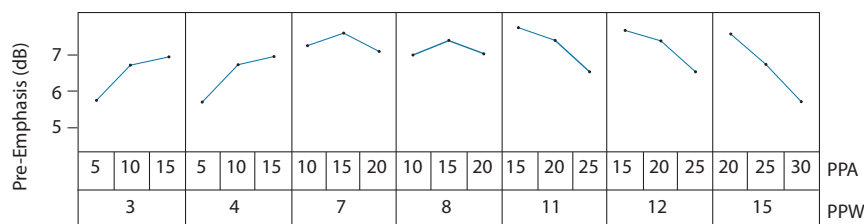
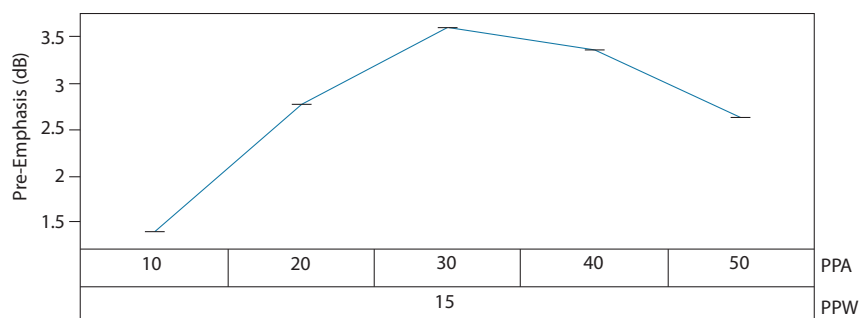

Figure 4-12: Pre-emphasis Settings for VCCO_1 = 1.2V and DS = 7 (swing = 200mV_{pp})
Figure 4-19: Pre-emphasis Settings for VCCO_1 = 2.5V and DS = 35 (swing = 800mV_{pp})
The only requirement of the Trace Driver pre-emphasis settings is to minimize ISI introduced by a lossy link and maximize the eye opening at the receiver. The pre-emphasis compensation of the GS12190 output channel is a two-step process. The first step is to use the settings from Figure 4-12 to Figure 4-19 that best match the insertion loss of the link in the application, while the second step is a fine optimization procedure.
1. Pre-emphasis Amplitude (PPA) Optimization: Set the PPA and PPW to the values obtained from the graph selected out of Figure 4-12 to Figure 4-19, and then measure the downstream jitter. While keeping PPW constant, increment the PPA by 'a'. If the jitter is lower after the first increment, continue to increment by 'a' until the jitter begins increasing or a setting of 50 is reached. If there was a setting which resulted in a lower jitter measurement than the initial setting, that is the Optimized Pre-emphasis Amplitude setting: $PPA_{Optimal}$, and the PPA optimization procedure is complete.
If incrementing the PPA or decrementing the PPA did not result in a setting with lower jitter, then the initial setting obtained from the graph selected out of Figure 4-12 to Figure 4-19 is the PPA optimized Pre-emphasis Amplitude setting: $PPA_{Optimal}$.
2. The second step is to set the PPA to the optimized setting $PPA_{Optimal}$ determined in step 1 and PPW to the values obtained from the graph selected out of Figure 4-12 to Figure 4-19, then measure the downstream jitter. While keeping PPA constant, increment the PPW by 'w'. If the jitter is lower after the first increment, continue to increment by 'w' until the jitter begins increasing or a setting of 15 is reached. If there was a setting which resulted in a lower jitter measurement than the initial setting, that is the Optimized Pre-emphasis Width setting: $PPW_{Optimal}$, and the optimization procedure is complete.
If incrementing the PPW or decrementing the PPW did not result in a setting with lower jitter, then the initial setting value obtained from the graph selected out of Figure 4-12 to Figure 4-19 is the optimized Pre-emphasis Width setting: $PPW_{Optimal}$.